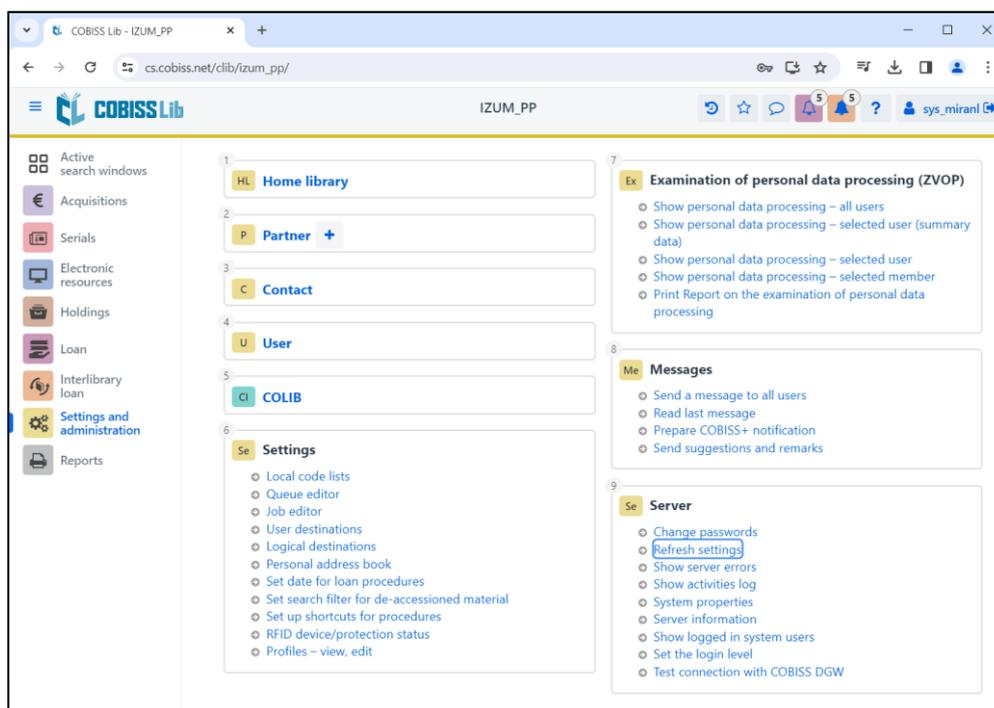

Figure 14: Refresh settings in the COBISS Lib user interface
- Figure 14: Refresh settings in the COBISS Lib user interface8
Once you define all the settings, confirm each choice by clicking the **OK** button. At the end, select **Refresh settings** in the **Settings** (Figure 14). If this option is not available, you can refresh the new settings by signing out and back into the COBISS Lib software.